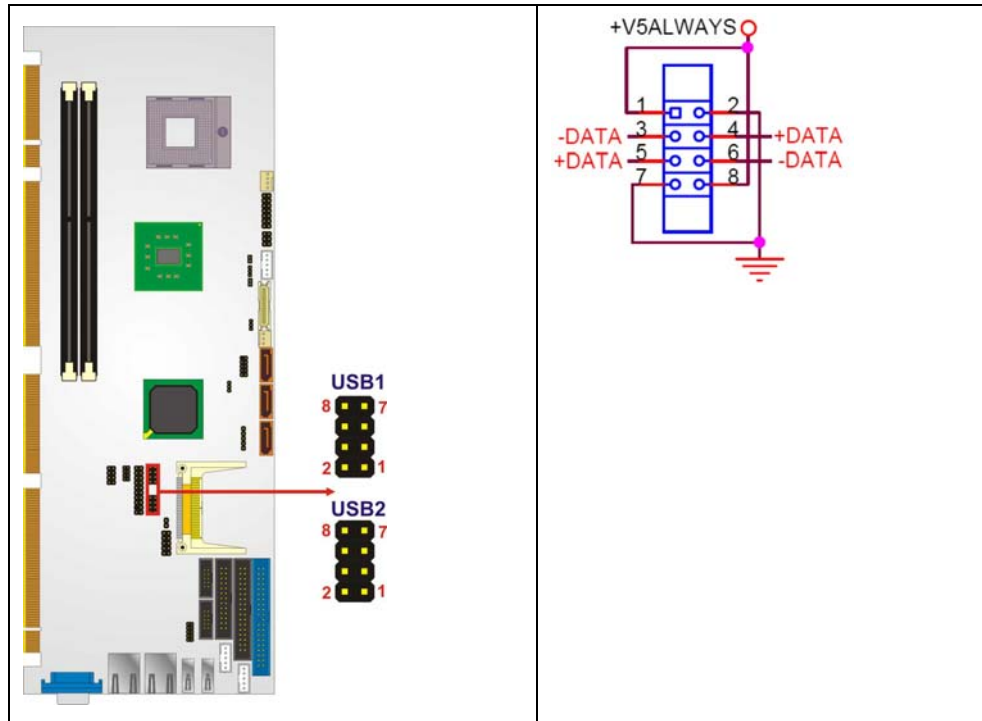

Figure 4-21: USB Connector Pinout Locations
- CN Location:** See Figure 4-21